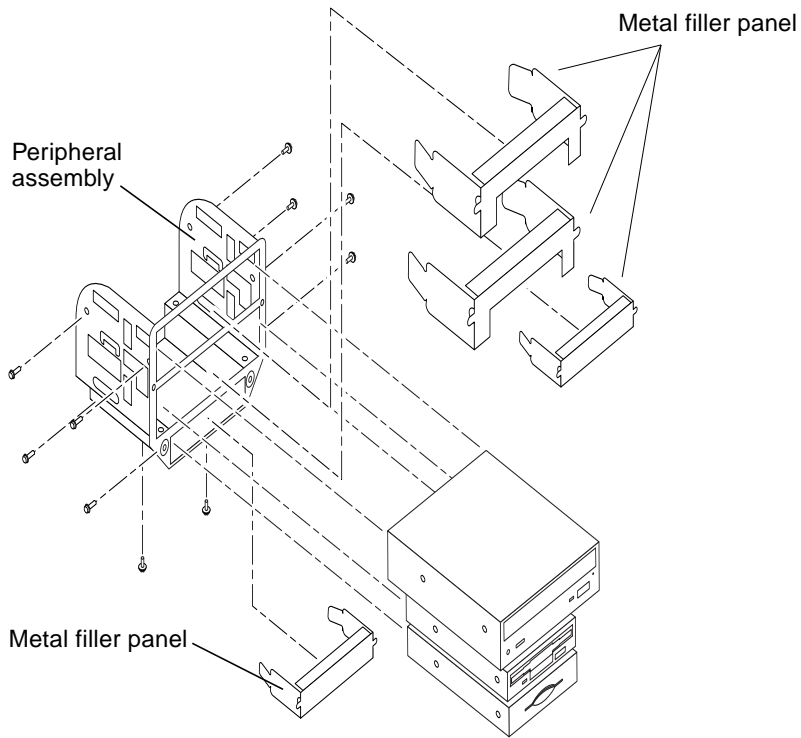

FIGURE 6-19 Removing and Replacing Metal Filler Panels
4. Remove the metal filler panel from the peripheral assembly (FIGURE 6-19).
- 1. Position and snap the metal filler panel into the peripheral assembly (FIGURE 6-19).**